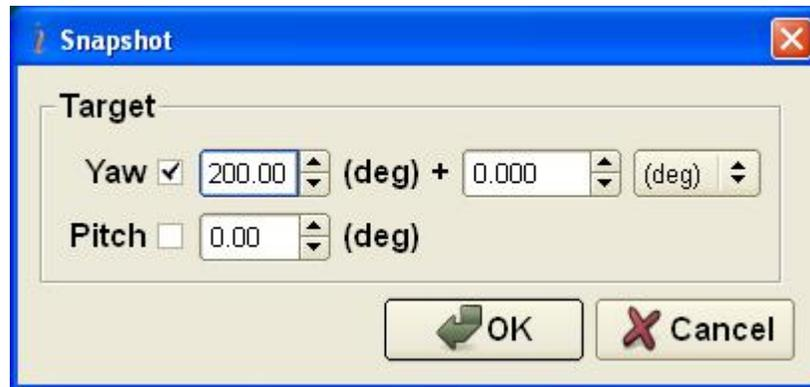

Fig. 10.1
Step 11. When the VG is set in necessary position and is ready to save data, click “**Snapshot**”  button. Window shown in Fig. 10.1 will appear.
Depending on known target orientation (its relative or absolute azimuth and pitch/elevation) select “**Heading**” or/and “**Pitch**” checkboxes (see Fig. 10.1).